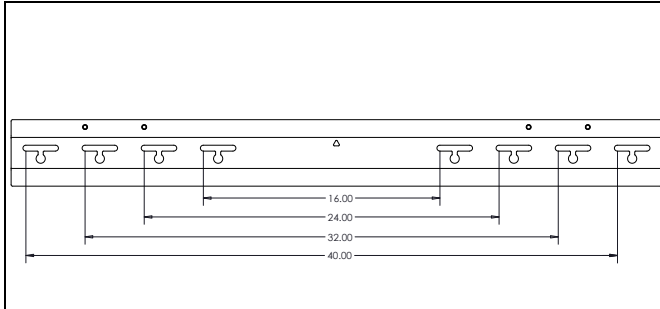

Figure 1
- Using the information included in the **Dimensions** drawings and Figure 1, determine where to center and attach the top wall plate of the PSMHO2089/2146.